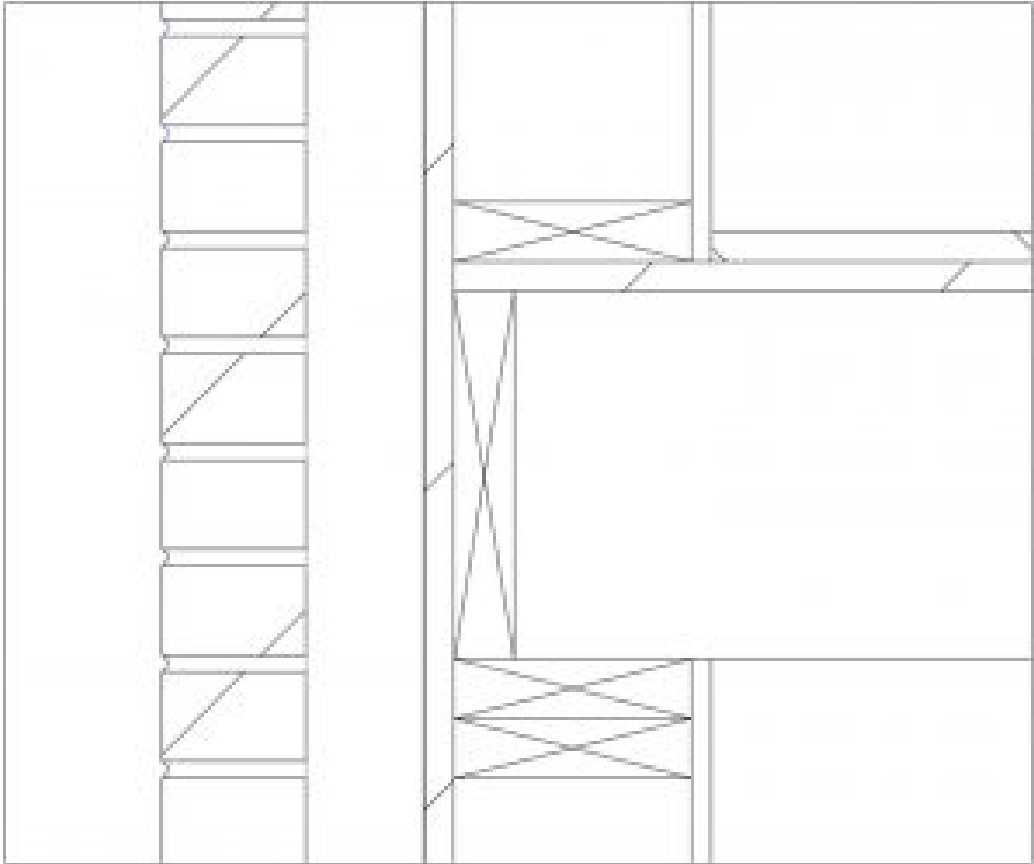

Figure 10.6 Repeat brick component over
5. Click the bottom left corner of the brick layer and drag the cursor up to place the repeating pattern as shown in Figure 10.6
8. Use the Copy tool to make multiple grout lines as shown in Figure 10.6